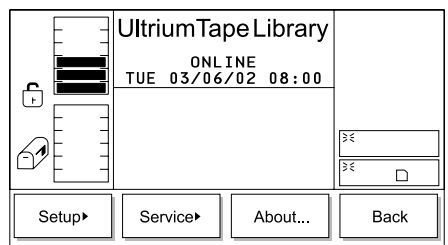

Figure 262. Main Menu (alternate screen)
1. From the Main Menu's initial screen, press the button below the **More** softkey. The Main Menu's alternate screen displays (see Figure 262).